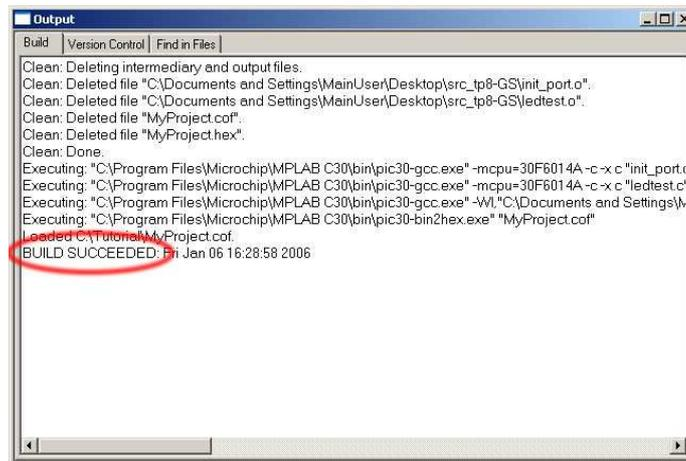

Figure 8: Build output window.
1. Select Make>Project menu to display the Build Output window (Figure 8).